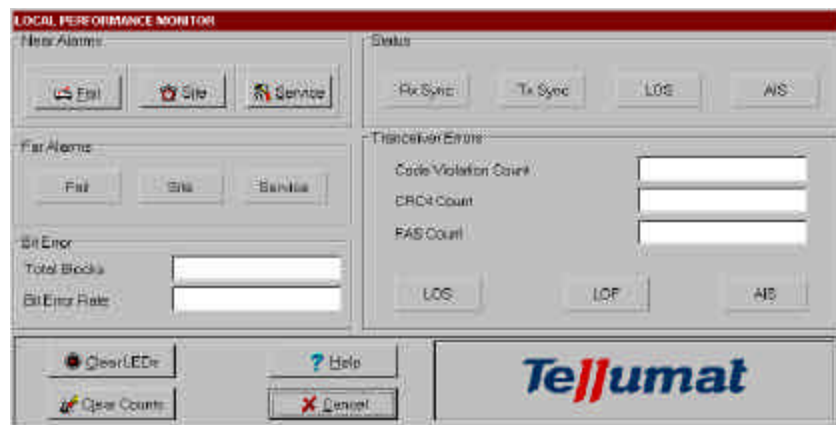

Figure 16. Indoor Unit: Typical Status Screen.
**Indoor Unit: Status** This screen (see Figure 16) allows you to monitor the network's performance. It provides the following data: